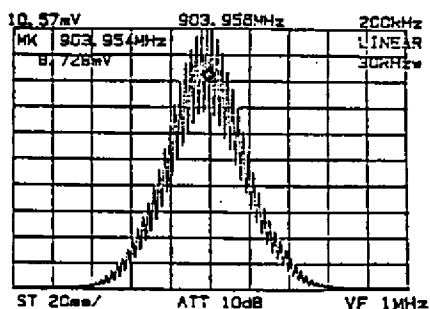

Figure 5-4 Setting the Ordinates Axis Scale to LINEAR
- ⑥ Press the **SHIFT** , **LINEAR**  key and set the ordinates axis scale to LINEAR (Figure 5-4).